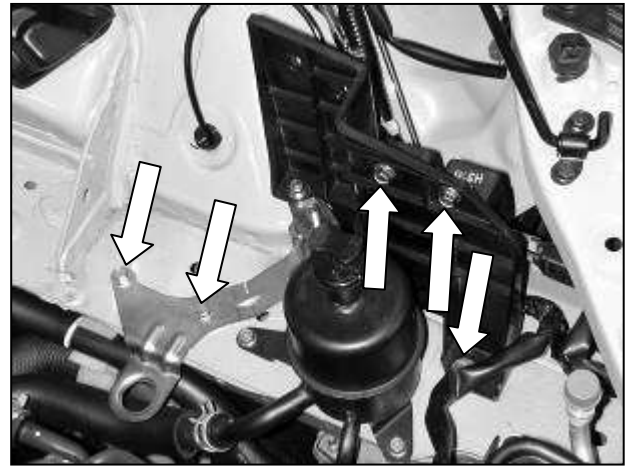

Fig. 3
- f. Remove the headlight relays from relay mount. (Fig. 3)
- g. Loosen the three bolts holding the relay and air cleaner assembly mount and remove it. (Fig. 3)